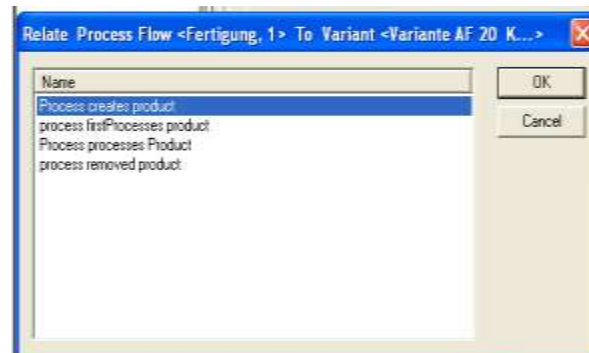

Figure 95: Relate Dialog
- 4) Select **Attachment** tab. Attach the files in **Attachment** dialog. Project elements having attachments are displayed with overlaid bit-map_clip icon. Objects those not having the attachment are displayed with the pre assigned icons. *Please refer to the Figure 95.*